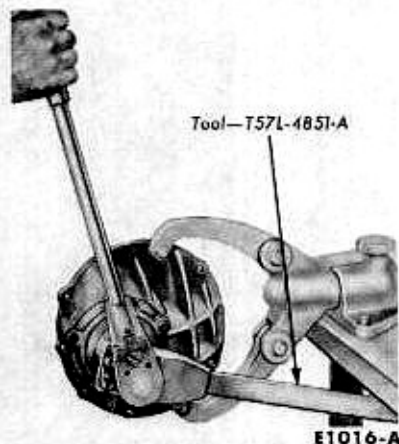
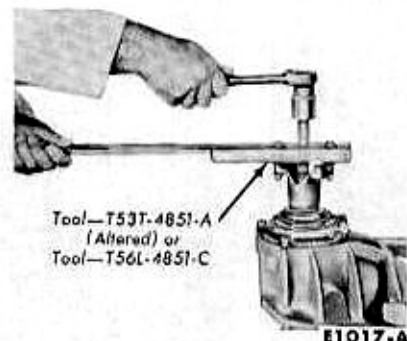

FIG. 9—Pinion Shaft Nut Removal
FIG. 10—U-Joint Flange Removal
3. Hold the flange with the tool shown in Fig. 9, Part 7-2. Remove the pinion nut and the flat washer.
7. Turn the carrier case upright, and remove the pinion shaft nut (Fig. 9). Then remove the U-joint flange (Fig. 10).
7. Hold the flange (Fig. 9) and tighten the pinion shaft nut until the torque required to turn the pinion shaft is 8-12 inch-pounds (used bearings) or 17-27 inch-pounds (new bearings). As the pinion shaft nut is